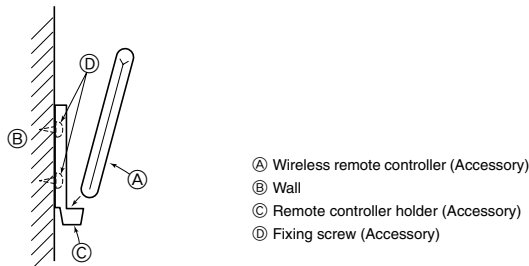

Fig. 7-5
7.3.1. Wireless remote controller (Fig. 7-5)